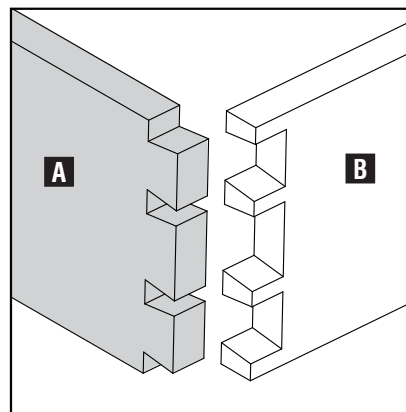

Fig. D1
With the OMNIJIG®, through dovetail joints are made by first cutting the tailboard (A) Fig. D1 using a dovetail bit. The pinboard (B) is cut next using a straight bit.